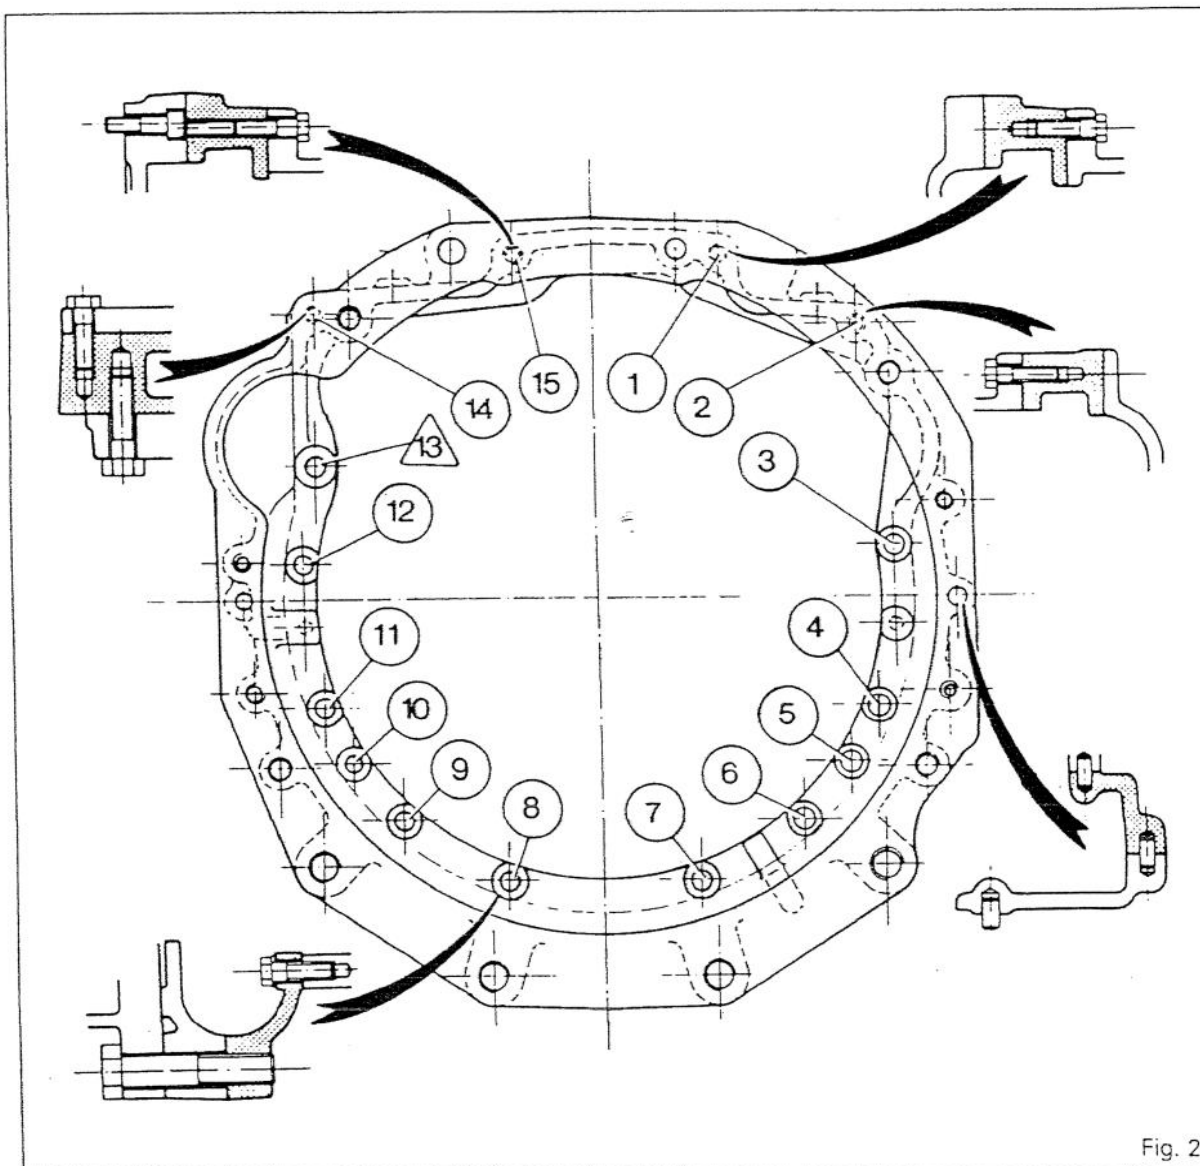

Fig. 2
**Note: Make sure that the countersunk head screw /13/ is positioned in the correct hole (Fig. 2).**
#### Lubrication (Fig. 2)